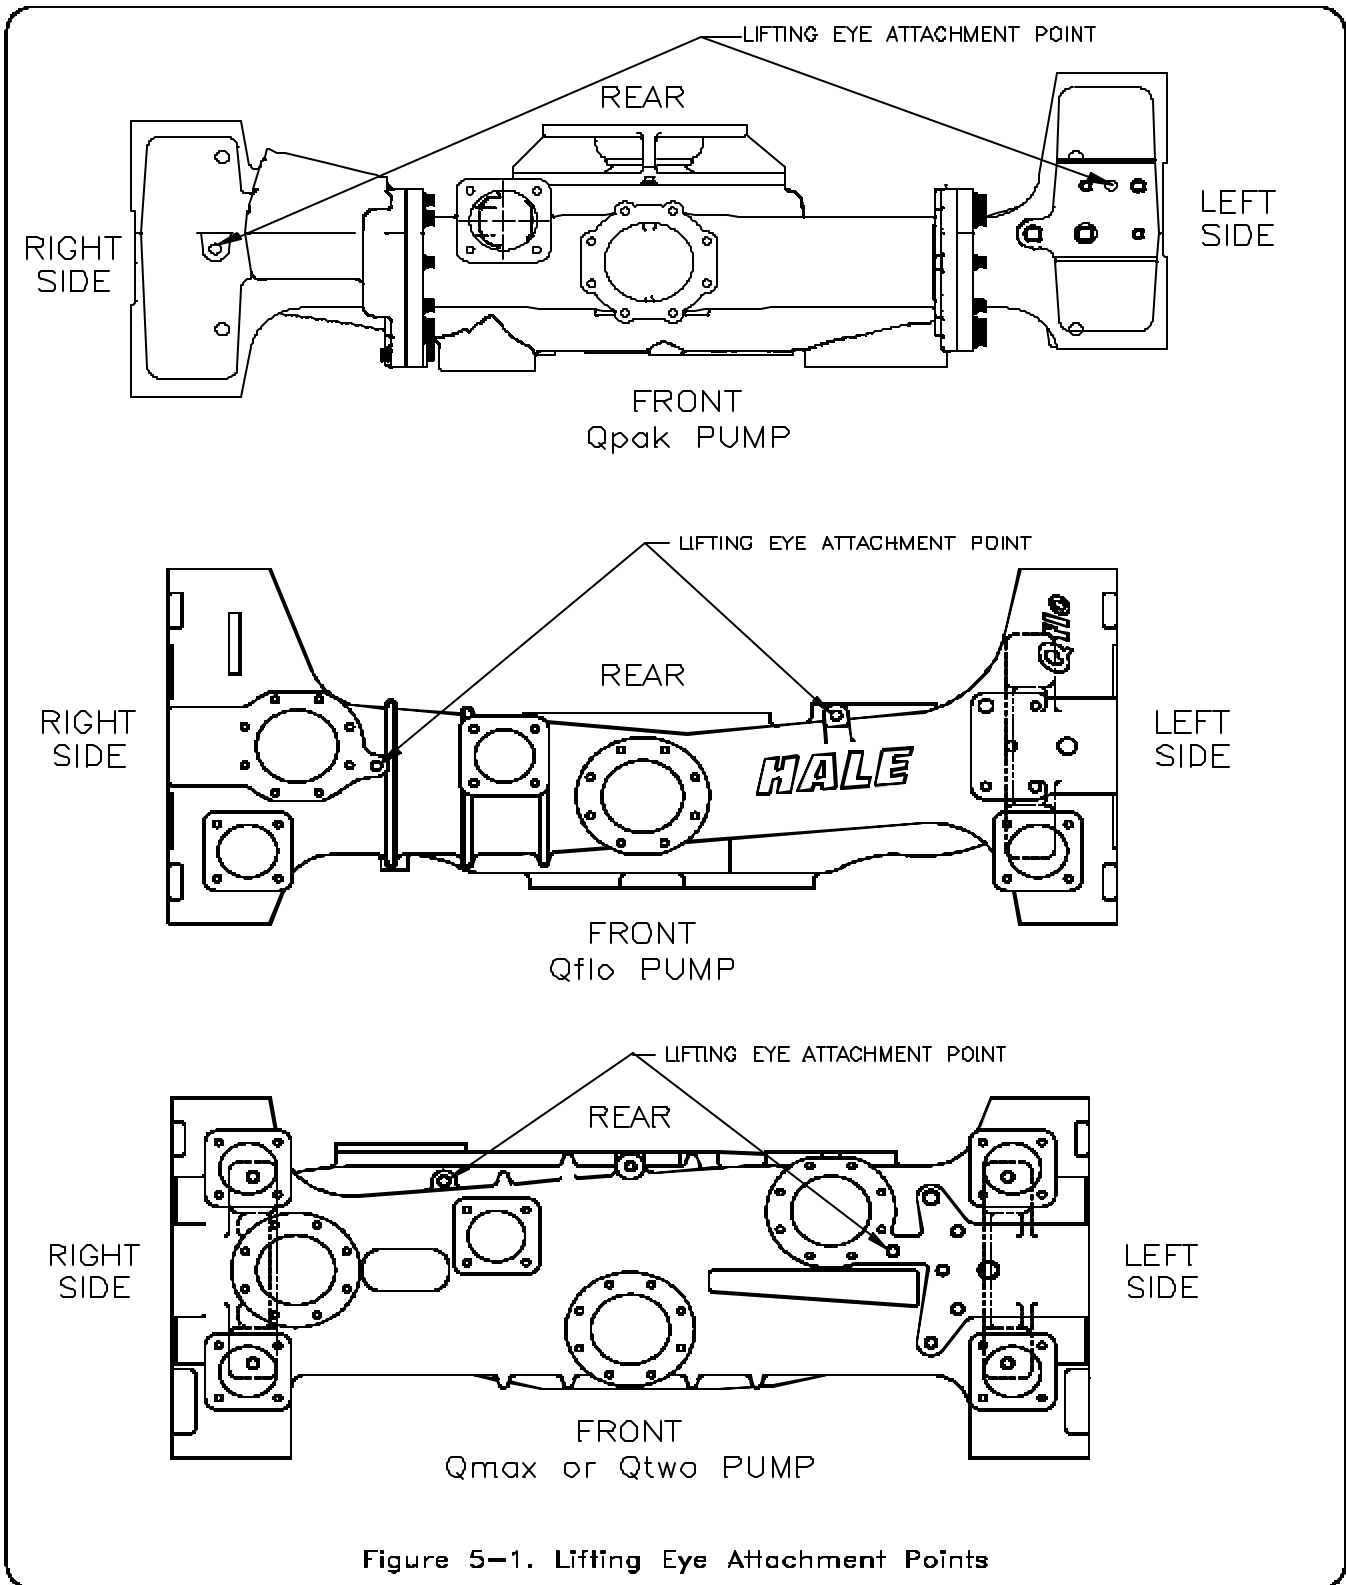

Figure 5-1. Lifting Eye Attachment Points
- e. Install 1/2-13UNC eyebolts into lifting holes on the pump body (see figure 5-1). Attach proper lifting gear to these eyebolts.